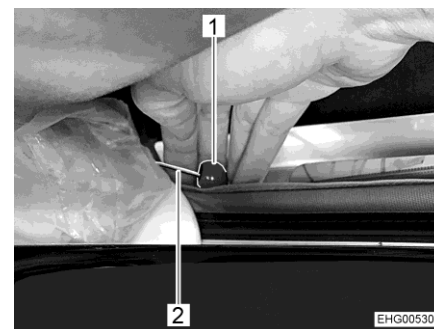

Fig. 50 Emergency release
- Pull the red button (Fig. 50,1) of the cable control (Fig. 50,2) on both sides.